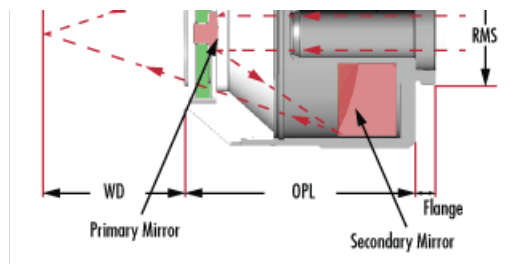

Figure 6: Anatomy of a Reflective Objective [View Larger Image]
Reflective objectives utilize a reflective, or mirror-based design. They are often overlooked in comparison to their refractive counterparts, though they can correct for many issues present in the latter. Reflective objectives consist of a primary and secondary mirror system (Figure 6) to magnify and relay the image of the object under inspection. Edmund Optics® utilizes the popular Schwarzschild design, though other designs are available. Since light is reflected by metallic surfaces and not refracted by glass surfaces, reflective objectives do not suffer from the same aberrations as refractive objectives and, thus, do not need the additional designs to compensate for these aberrations. Reflective objectives can produce higher light efficiency as well as better resolving power for fine detail imaging because the system is primarily dependent upon the mirror coating instead of upon the glass substrate being used. Another benefit of reflective objectives is the possibility of working deeper into either the ultra-violet (UV) or infrared (IR) spectral regions due to the use of mirrors compared to conventional refractive optics.